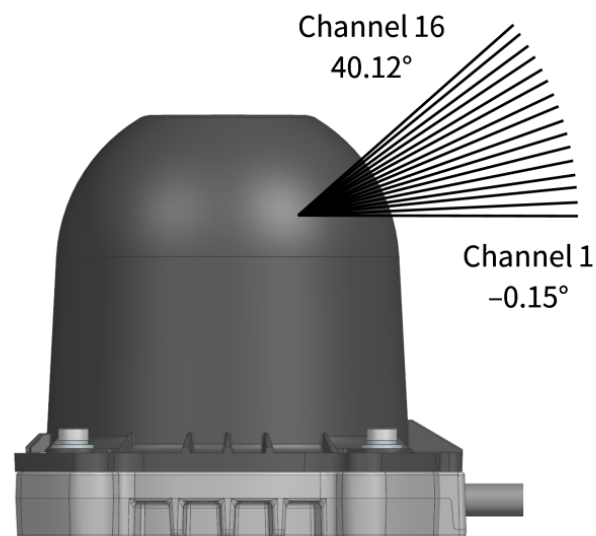

Figure 4. Channel vertical distribution
All channels are unevenly distributed, as illustrated in Figure 4.
- The elevations indicated in Figure 4 are projections onto the plane; for the design value of each channel's vertical angle in space, see Appendix A Channel distribution data.